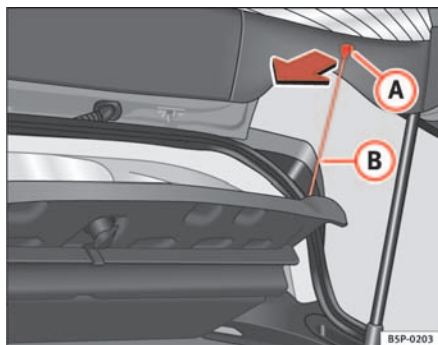

Fig. 121 Luggage compartment cover
- Disengage the loops ⇒ fig. 121 **B** from the retaining pins **A**.